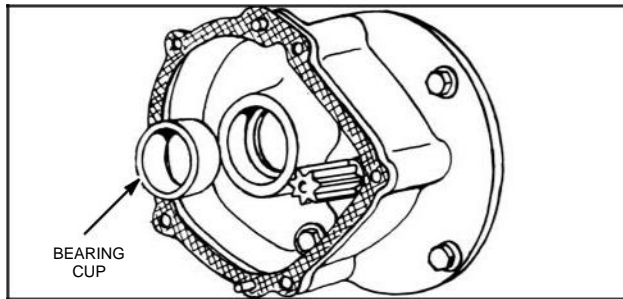

Fig. 124
1. Assemble gear case to crankcase of engine with cap screws and lockwashers, Fig. 124.
**NOTE:** Model BR. Be sure that the bronze thrust washer does not fall off the two (2) dowel pins. If it does, the crankshaft end play will be lost. Oil grooves in washer should be toward crankshaft.
4. Place gear case cover gasket over dowel pins in gear case, Fig. 124.
**NOTE:** To assemble part numbers 290573 (NLA), 290559 (NLA), and 290563 (NLA) gear case assemble follow instructions above except place the shims back of roller bearing cup in gear case, Fig. 124.